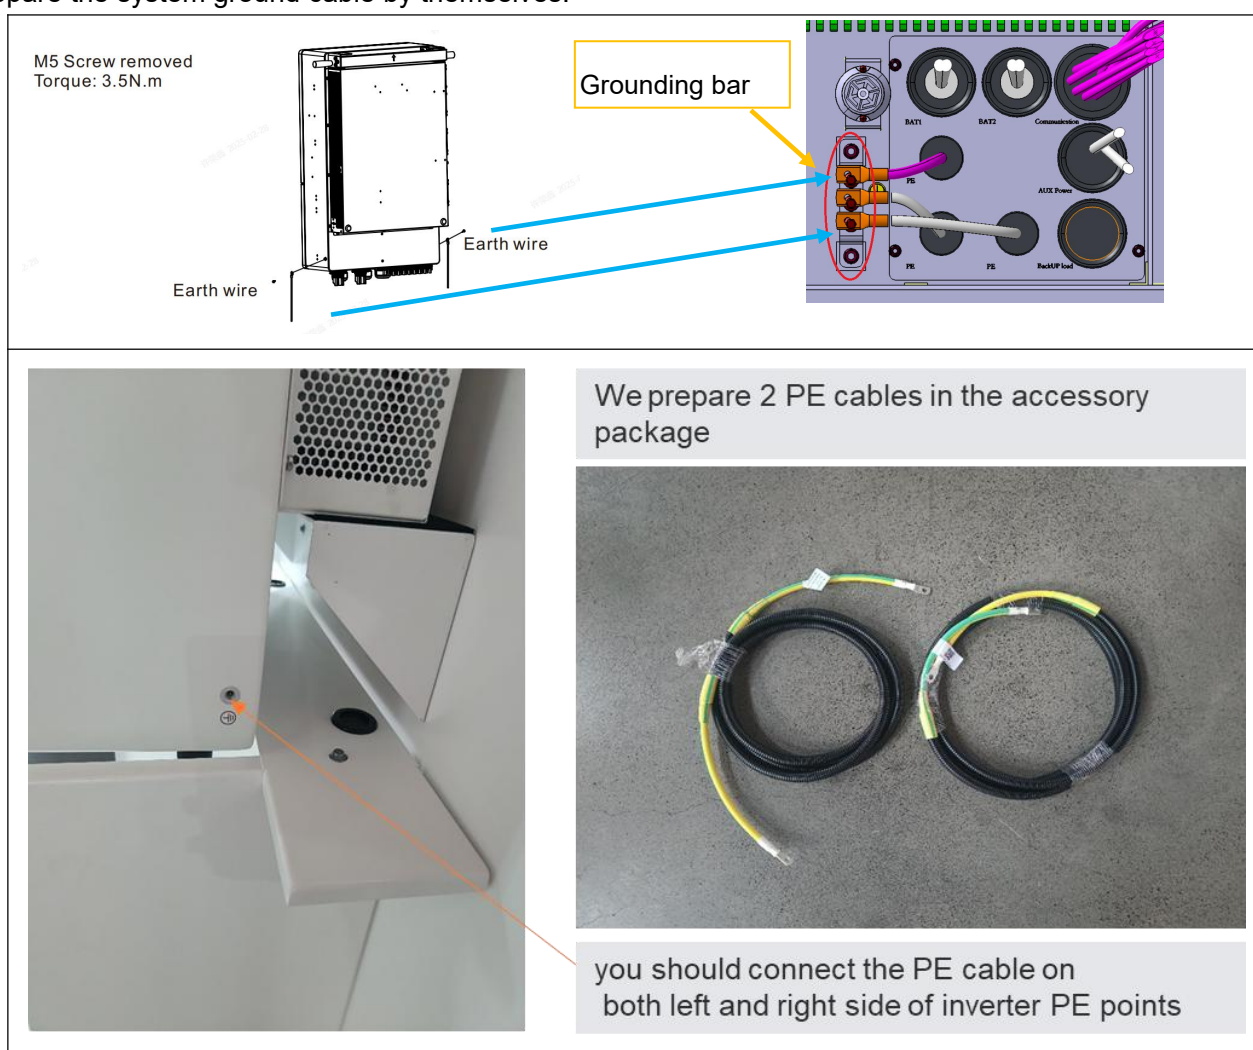

Figure 5-16 Grounding cable connection diagram
1. The power cable of the customer load is connected to the XT terminals of the cabinet. The connection should be carried out according to Figure 5-16. The following is the interface definition: